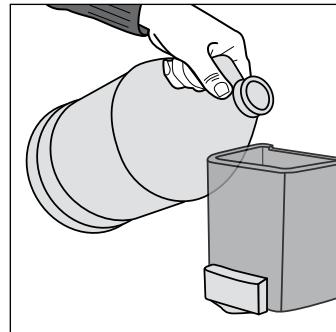

Figure 4
- Open dispenser. Flush tank and pump mechanism with warm water to remove residue and contaminates. Refill with new soap and replace lid. (See Figure 4)